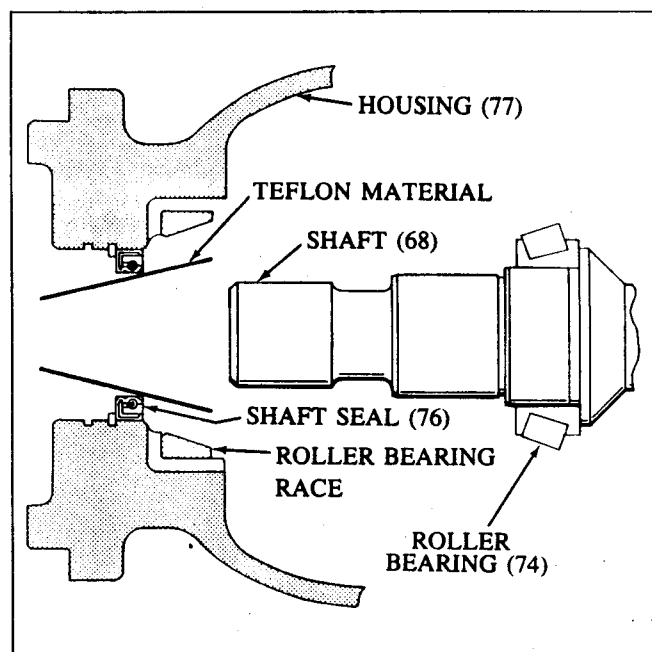

Figure 15. Shaft (68) Installation
The following step describes the assembly of shaft (68) into housing (77). Refer to Figure 15 during this process.
6. Install shaft (68) as follows:
a. Lubricate roller bearing (74) and shaft (68). Assemble roller bearing (74) on shaft (68).